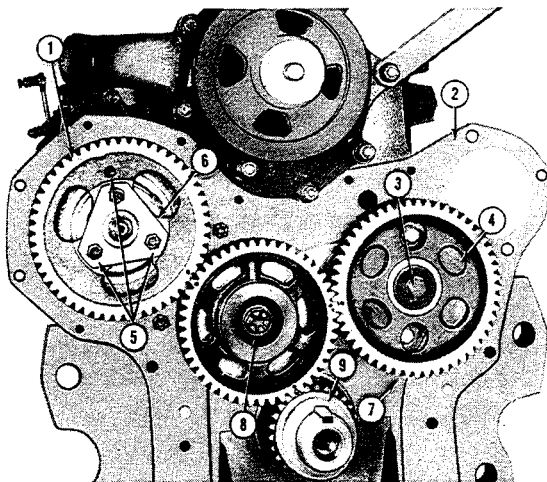

Figure 31
1. Turn the crankshaft until the camshaft gear is in the approximate timed position, Figure 31.
2. Remove the three attaching bolts that retain the injection pump gear, Figure 31, to the pump adapter plate and remove the gear.
1. Time the engine before installing the injection pump gear. To do this remove the camshaft drive gear, place No. 1 piston at top dead center and reinstall the camshaft drive gear in mesh and the timing marks aligned to the other gears as shown in Figure 31. Tighten the camshaft drive gear adapter bolt to the specified torque, page 92.
- Remove the retaining bolt and washer, Figure 31.
When removing or installing any of the timing gears, be sure that the timing marks line up correctly, as shown in Figure 31. The No. 1 piston must be at T.D.C. on the firing stroke when the timing marks are aligned.
2. Install the oil slinger dish out, Figure 31.